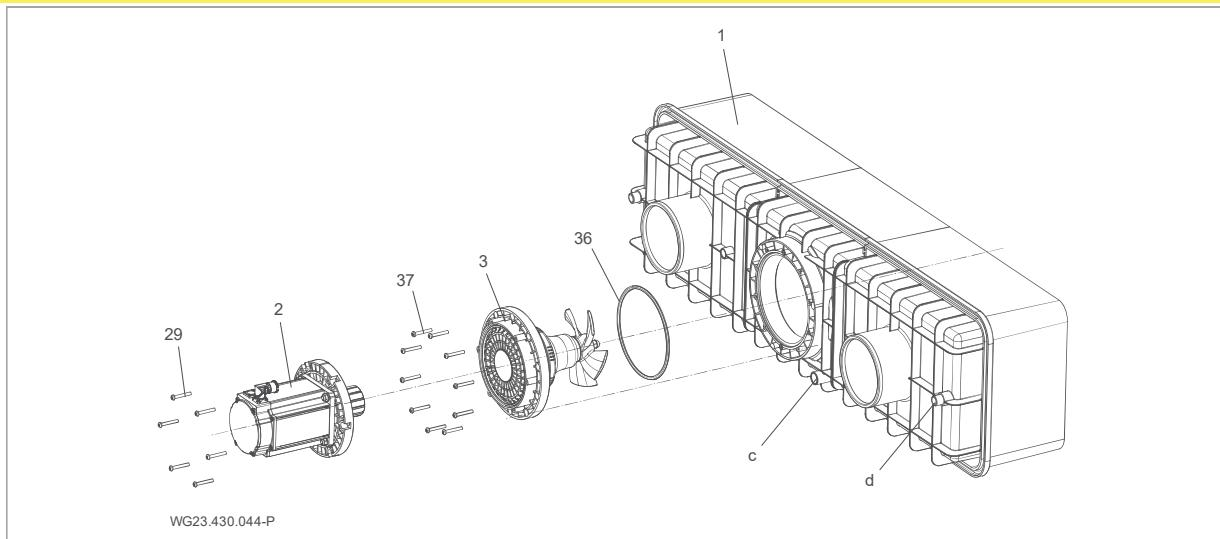

Fig. 16
1. Remove grease from the connection nozzle (d, see "Fig. 16" on page 21) on the plastic housing (1) and the connection socket of the cable protection tube (12) with PVC-U/ABS cleaner.